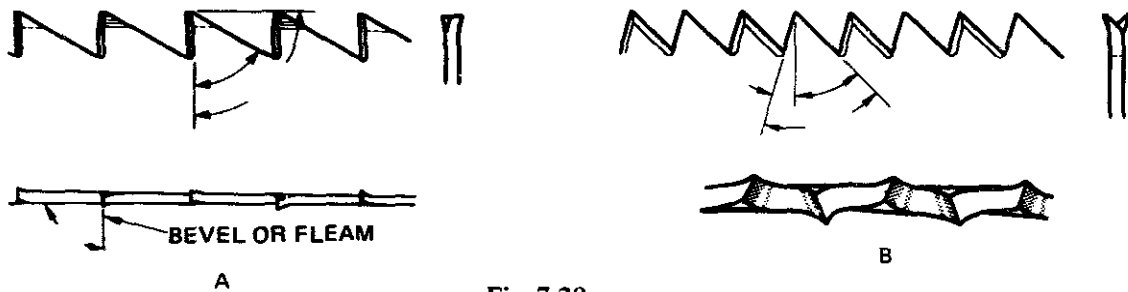

Fig. 7-29
13. Refer to figure 7-29. At A, ripsaw, and at B, crosscut, indicate the proper angles of the saw teeth when fitting has been completed.
14. Refer to sketches A and B in figure 7-29 and identify the *pitch* or *hook* and *set*.